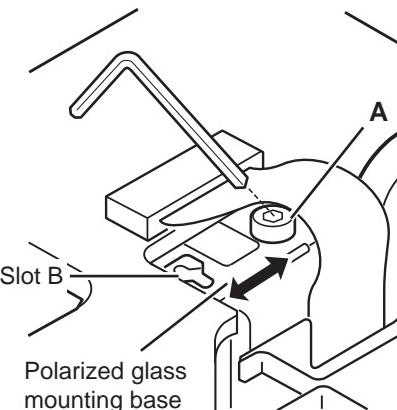

Fig. 3-11
2. Loosen a screw A (Fig.3-11/3-12) on the polarized glass mounting base which you intend to adjust.
3. Adjust a slots B as shown in Fig.3-11 to obtain the darkest brightness on the screen by turning a slot screwdriver.